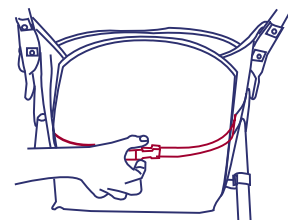
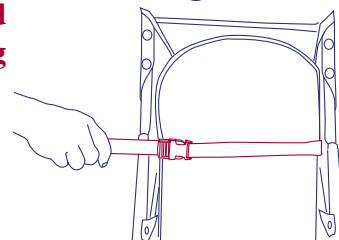

Figure 13.
Figure 14.
- The seat has a multiple position recline that is controlled by a strap and buckle assembly behind the seat. See figure 13. To recline the seat, loosen the strap through the buckle and adjust to the required recline position. Please see figure 14. To place the seat back in a more upright position, press upward on the seat back with one hand while pulling the strap through the buckle with the other. The strap will lock automatically. **The upright position should be used only for a child that is at least 6 months old. Always re-adjust the safety harness, including the shoulder belts, when repositioning the seatback.**